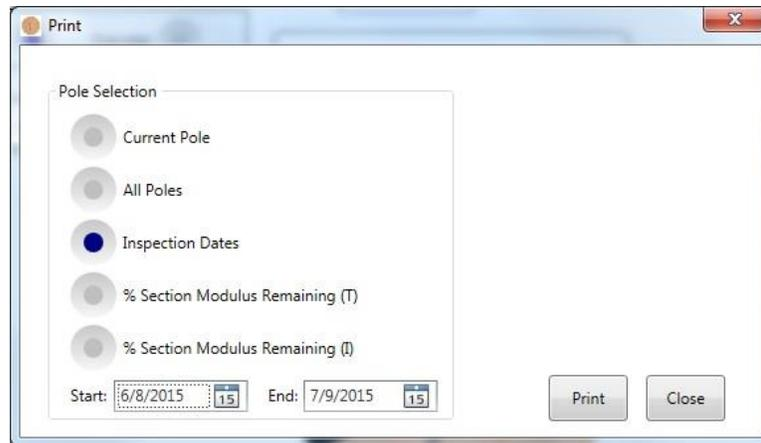

Figure 3-8. Inspection Dates
- *Inspection Dates* – All damage data for all poles in the currently selected database with inspection dates lying within a given date interval will be printed. The print dialog is shown in Figure 3-8.